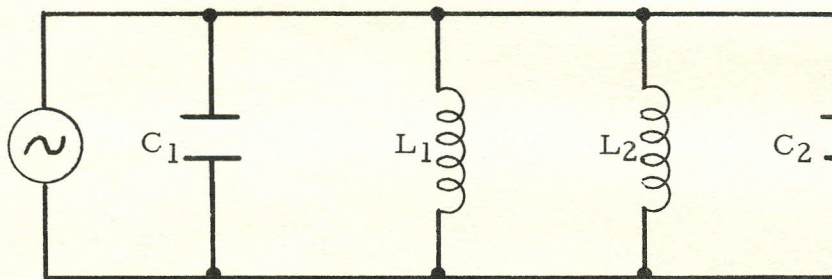

Figure 2
10. Determine the total capacitance of the circuit in Figure 2.
11. Determine the total impedance of the circuit in Figure 2.